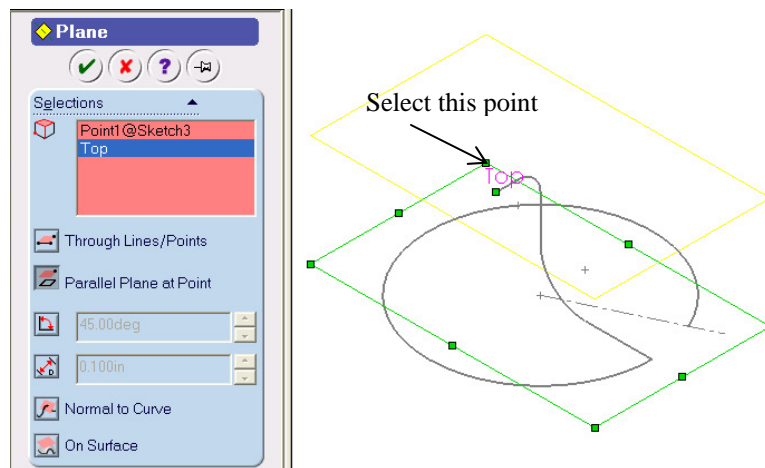

Figure 5 Reference plane parameters.
- Click **Plane**  on Reference Geometry Toolbar. Define a plane using the **Parallel Plane at Point**  option. Select the **point** and **Top** plane for **Selections**  as shown in Figure 5.